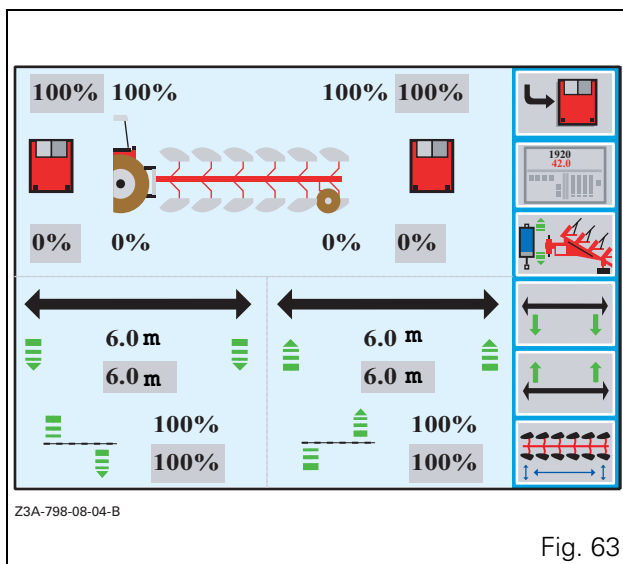

Fig. 63
- Pressing the key <<5 returns the user to the REAR DUAL CONTROL configuration menu (Fig. 63).
NOTE: For data description and settings (Fig. 63), see section 7.8. (DUAL CONTROL application).